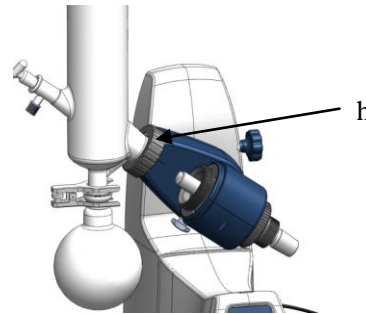

Figure 13
- Installing condenser (g) (Figure 12 and Figure 13).